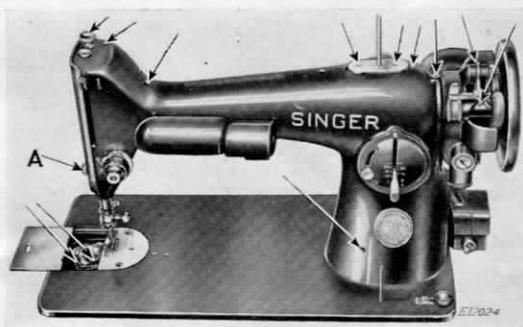

FIG. 29. FRONT VIEW, SHOWING OILING POINTS
each day. With moderate use, an occasional oiling is sufficient. Oil should be applied at each of the places shown by arrows in Figs. 29 to 33, inclusive. One drop of oil at each point is sufficient. Oil holes are provided in the machine for bearings which cannot be directly reached.
Remove the thumb screw (A, Fig. 29) near the lower end of the face plate and loosen the screw (D, Fig. 32) near the upper end of the face plate, then raise the face plate and slip it off over the head of the screw (D). Apply one drop of oil at each of the places indicated by arrows in Fig. 32, then replace the face plate and fasten it as before.